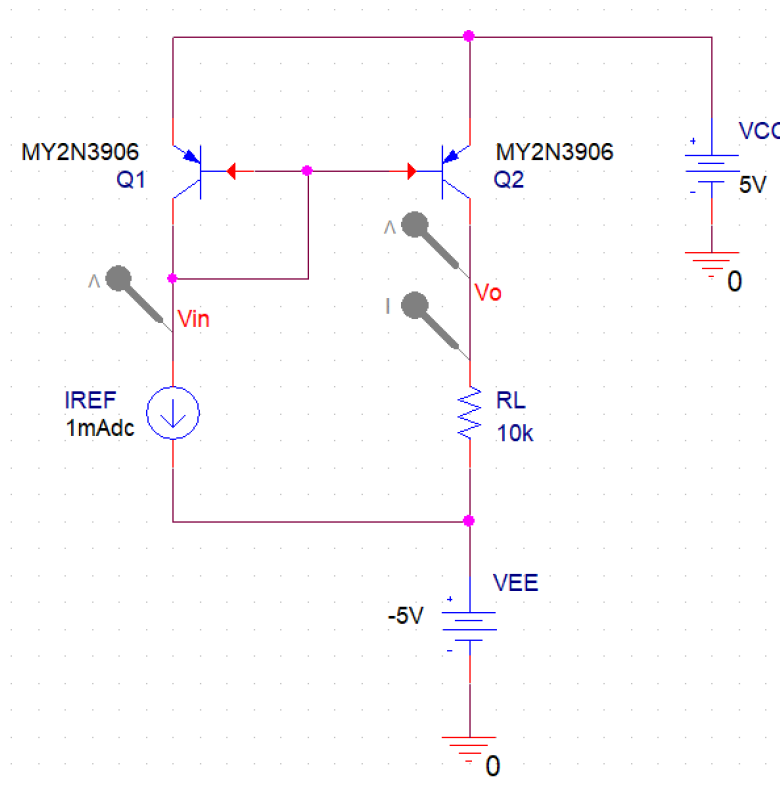

Fig. 2 Schematic diagram of the current mirror for the DC analysis
- 2.1 The current mirror transfers the AC signal to the output port from one side of a differential pair. To characterize a current mirror, construct the circuit in PSpice with the resistance value and supply voltages, as shown in Fig. 2. Here, the current source I_{REF} represents the reference current to be transferred, and the R_L represents the load at the output of the current mirror.